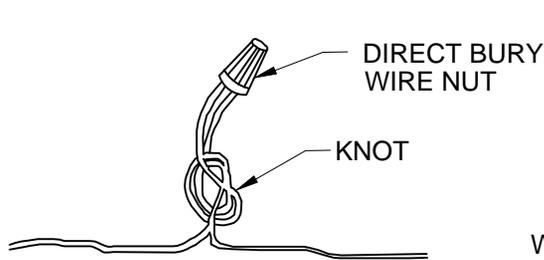

FIGURE 1
2. WHEN CONNECTING TRACER WIRE ENDS TOGETHER, STRIP $\frac{5}{8}$ " OF INSULATION FROM THE END OF EACH WIRE. INSERT TWO ENDS FIRMLY INTO THE DIRECT BURY WIRE NUT. TWIST THE WIRE NUT CLOCKWISE WHILE PUSHING THE WIRES FIRMLY INTO THE NUT. DO NOT OVER TORQUE. TIE THE WIRES IN A KNOT AS SHOWN IN FIGURE 1.